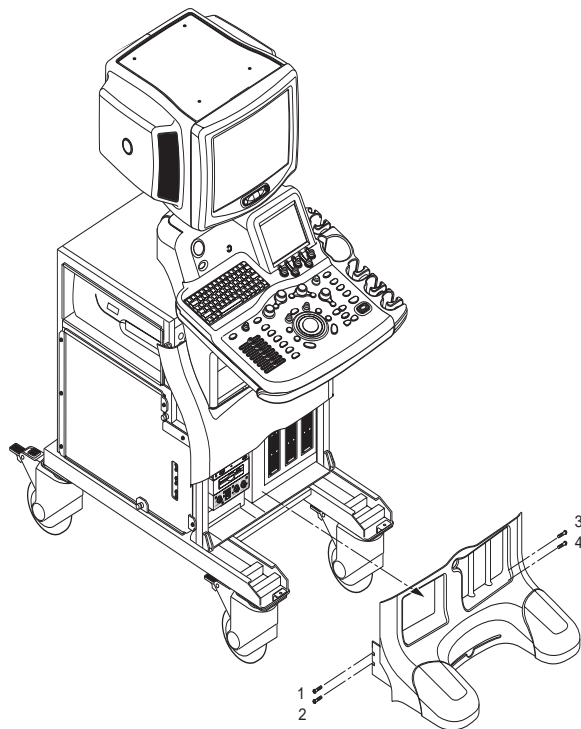

Figure 8-55 Removing the Front Base Cover
- 4.) Remove the Front Base Cover. Refer to Figure 8-55.